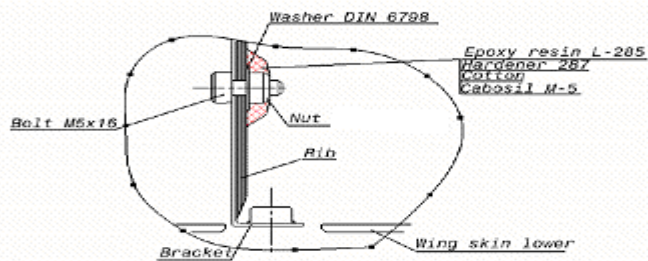

Fig. 4
8. Degrease the area around the nuts with acetone. Apply bonding mixture onto the both nuts (fig 4).